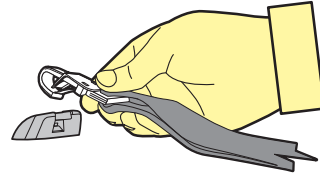

Figure 8
Step 5: Hook the attachment clip to the anchor fitting. Ensure there are no twists in the top tether strap (refer to Figure 8).